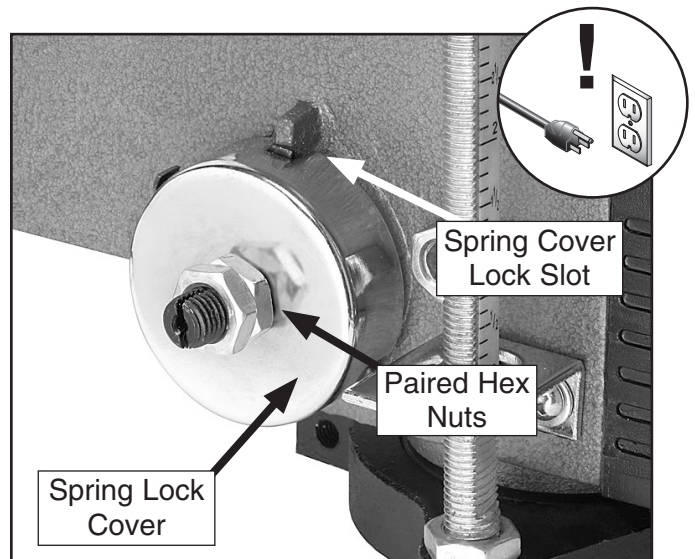

Figure 30. Return spring assembly.
2. Wipe off any oil on the spring lock cover so it does not slip in your fingers when you hold the cover from spinning (see **Figure 30** for spring lock cover identification).